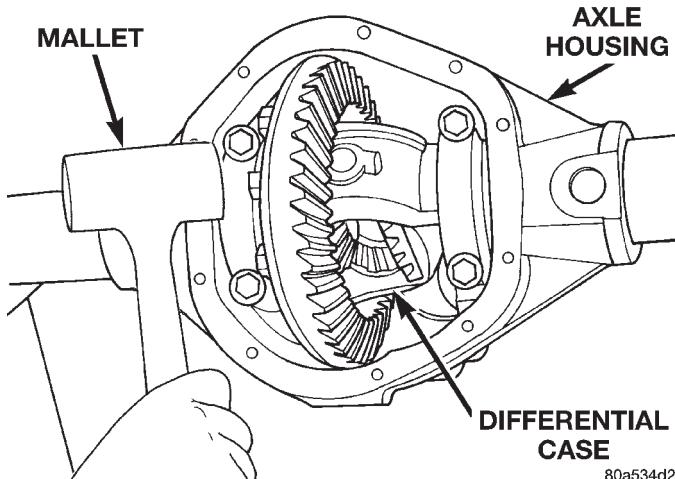
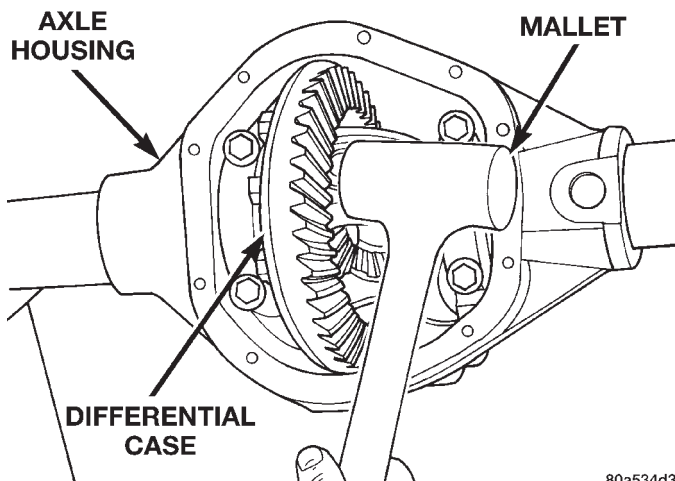

Fig. 63 Seat Pinion Gear Side Differential Dummy Side Bearing
Fig. 64 Seat Ring Gear Side Differential Dummy Side Bearing
(7) Using a dead-blow type mallet, seat the differential dummy bearings to each side of the axle housing (Fig. 63) and (Fig. 64).
(15) Rotate dial indicator out of the way on the guide stud.
(16) Remove differential case and dummy bearings from axle housing.
(17) Install the pinion gear in axle housing. Install the pinion yoke and establish the correct pinion rotating torque.
(18) Install differential case and dummy bearings D-348 in axle housing (without shims), install bearing caps and tighten bolts snug.
(19) Seat ring gear side dummy bearing (Fig. 64).